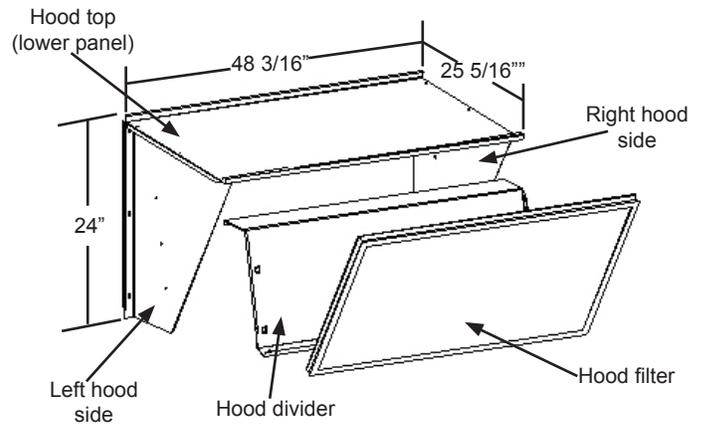

Figure 7
2. Install the hood sides to the hood top, see Figure 7.